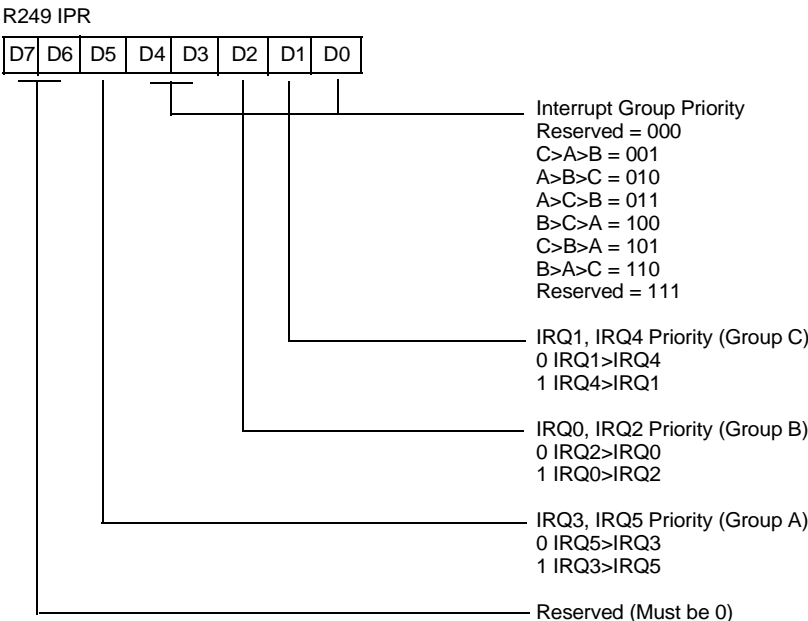

Figure 30. Interrupt Priority Register (F9h: Write Only)
**Interrupt Priority Register.** The Interrupt Priority Register, IPR, prioritizes interrupt functions and is shown in Figure 30.